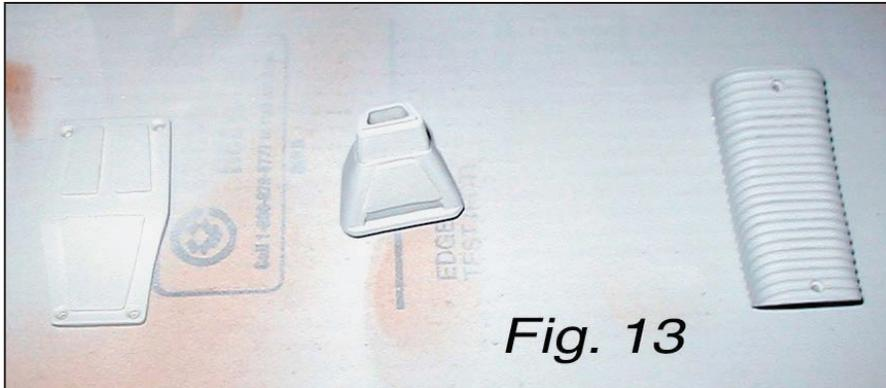

Fig. 13
Step 6: You may cover with masking tape any areas that will have parts glued to them, otherwise they will need to be scraped clear of paint before gluing parts. The other parts may be placed on a flat surface, and then spray primer all parts including the heads of all the screws **[Fig. 13]**.